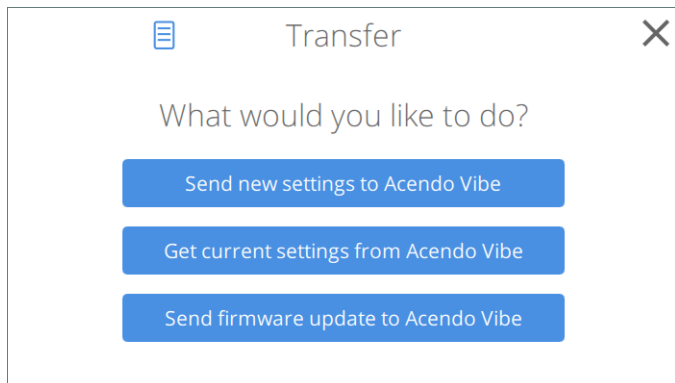

FIG. 47 Transfer Options window - What would you like to do?
2. This selection invokes the Transfer Options window (see FIG. 47 on page 28).
2. This selection invokes the *Transfer options* window to specify whether to transfer an Acendo Vibe Configuration File to or from the connected unit, or to send a firmware update to the Acendo Vibe (FIG. 47):
3. In the *Transfer Options* window, select **Send new settings to Acendo Vibe** (see FIG. 47).
1. In the *USB Connected* (or *Transfer*) window, select **Send firmware update to Acendo Vibe** (see FIG. 47).